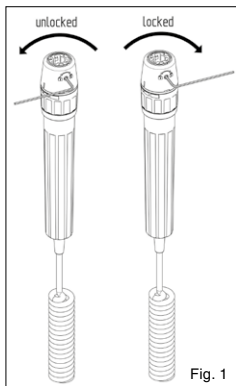

Fig. 1
- Instruments can be locked to prevent unauthorized removal by using the enclosed allen wrench according to fig. 1.